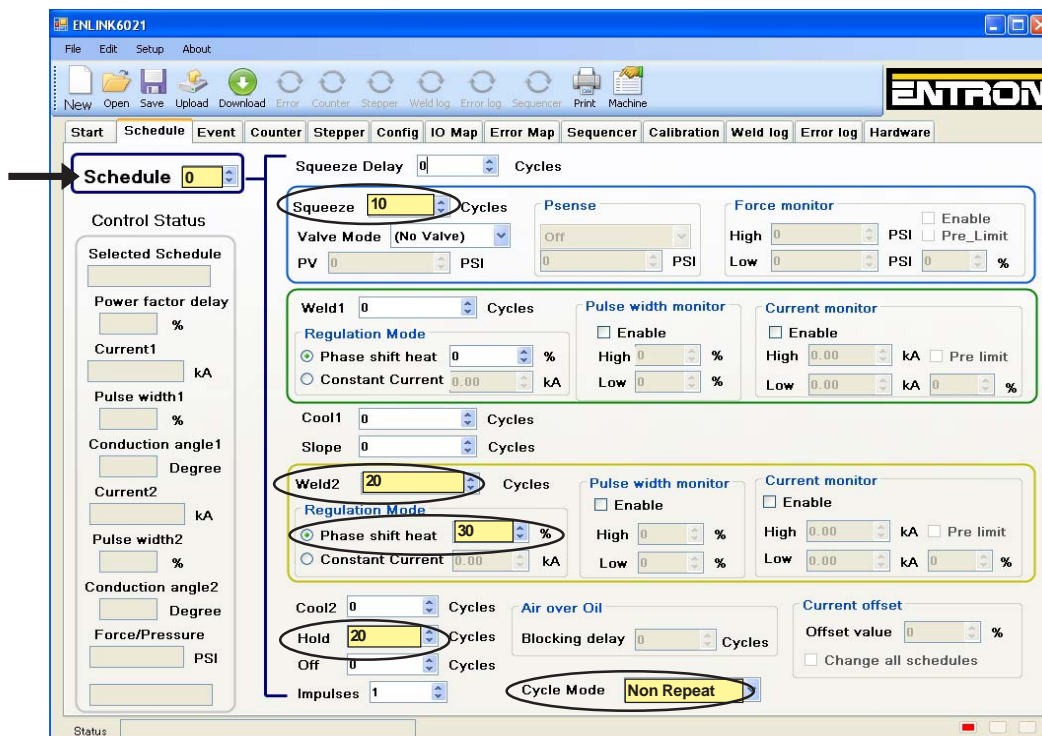

Figure 9-46. Edit SCHEDULE 0
A. Edit SCHEDULE 0 as shown in Figure 9-46.